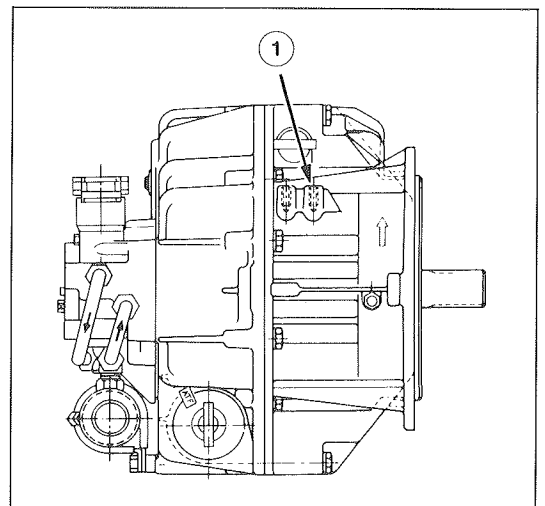

Figure 5
Mount guide (Figure 5, item 1) for the shifting linkage or Bowden cable on the transmission housing.